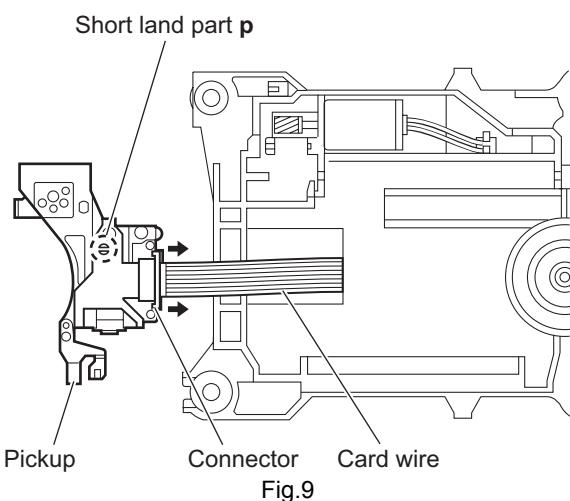

Fig.9
- (7) Solder the short land part **p** of the pickup. (See Fig.9)
- (8) Release the lock of the connector to direction of the arrow, and then disconnect the card wire. (See Fig9)
- Solder to short land part **p** of the pickup then disconnect the card wire from connector. If disconnect the card wire before soldering, pickup is make sure destroyed by static electricity. (See Fig.9)
- When reattaching the pickup, connect the card wire to connector and then remove the solder from short land part **p**. (See Fig.9)
- (1) Connect the card wire to connector of pickup, and then remove the solder from short land part **p** of the pickup. (See Fig.9)